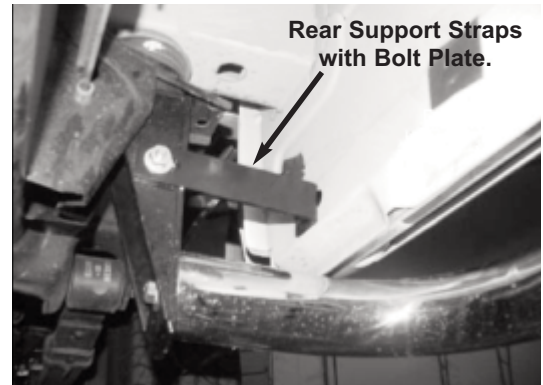

Figure 2 - Rear Bracket (Driver Side)
4. Attach the rear support straps by installing the bolt plate into the rocker panel using (1) 3/8" flat washer/lock washer and 3/8" hex nut. Attach the other end of the support straps to the side of the rear brackets using the (1) 3/8" x 1 1/2" bolt, (2) 3/8" flat washer, (1) lock washer and (1) 3/8" hex nut. (**See Figures 2, 3**) **Note: Not used on Regular Cab models**